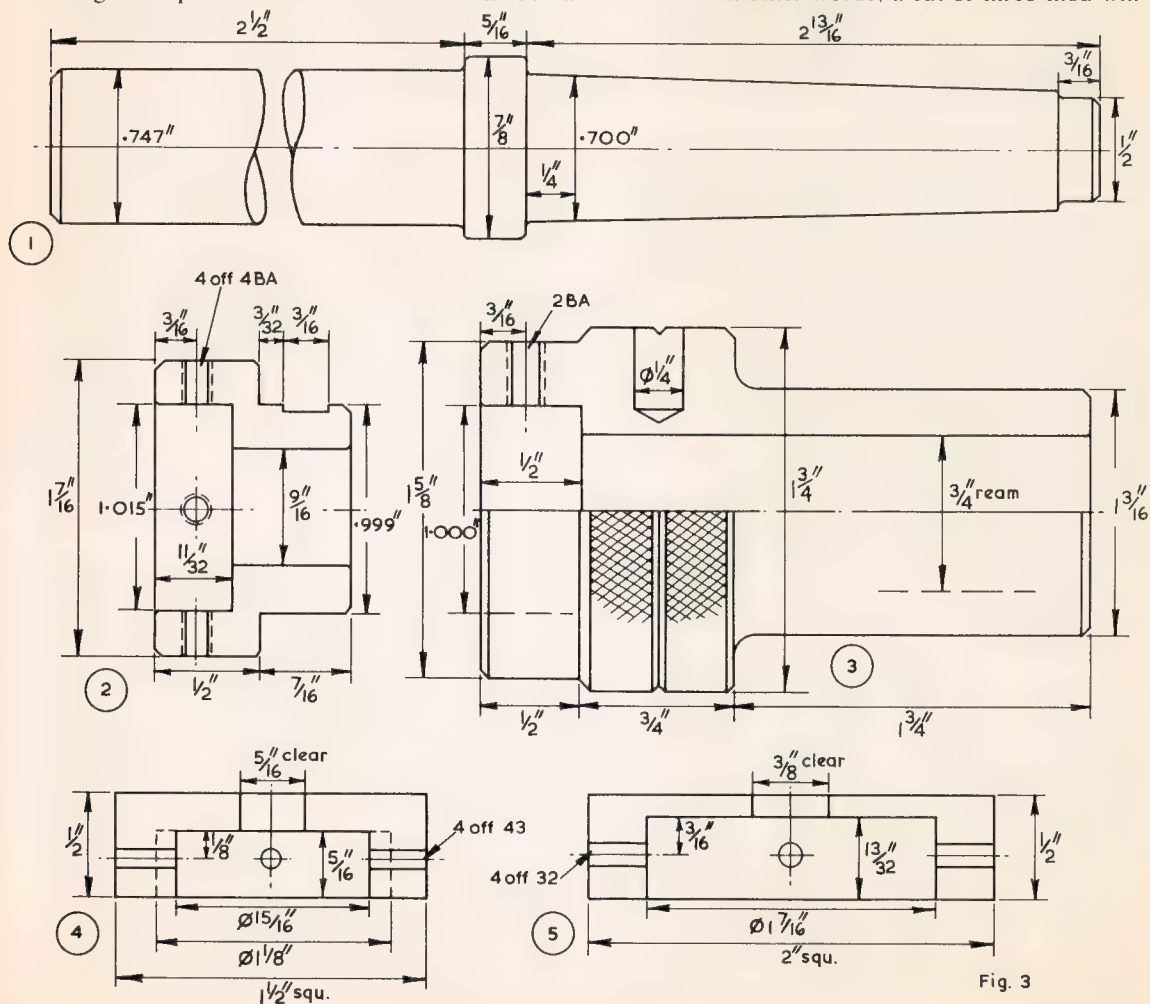

Fig. 3
To drill and tap the four holes for the die screws, a jig, Fig. 3 (4), was prepared from a 1 1/2 in. length of 1 1/2 in. x 1/2 in. BMS which was squared up on its four edges and recessed out as shown in the full lines to 15/16 in. dia. — or to fit the holder blanks which were all turned to the same size. The blanks were dropped into the jig, held by a bolt and nut and the four holes then were drilled No. 43. The 4 BA holes, one in each holder, were marked out and drilled individually.
3/8 in. length, after which the method was as described previously. The jig, Fig. 3 (4), was opened up to 1 1/8 in. as shown by dotted lines and this served later for Fig. 2 (3).
These holders differ in only one respect from the smaller ones in that their method of attachment to the body is inverted. In the outfit, Fig. 2, which has been made for 13/16 in. dies, I have shown holders for 1 in. dies also Fig. 2 (2). The spigots are turned to a close fit in the .750 in. (or 1.000 in.) recesses and are held by these spigots for turning the other ends, including the recessing for dies. Fig. 3 (5) shows the larger drill-jig which is necessary for the 1 in. holders. The only operation on these larger holders which we have not met on the smaller ones is the milling of the flat, which can be carried out in a score of different ways. A very simple set-up would consist of a Myford vice, with the jaws horizontal, on a vertical slide facing the headstock. With the work-piece pushed back into the vice, the position of the flat would be determined by the height setting and the depth of cut by feeding the saddle along towards the headstock. Once the correct settings are obtained all slides should be locked before feeding the work across a 3/16 in. or 7/32 in. end-mill, using the cross-slide.